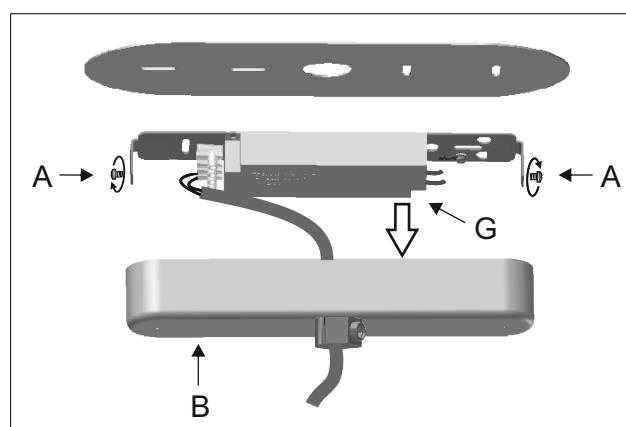

Figure 1
- 1 - Unscrew the side screws (A) to remove the canopy (B). Place the provided driver (G). Figure 1.